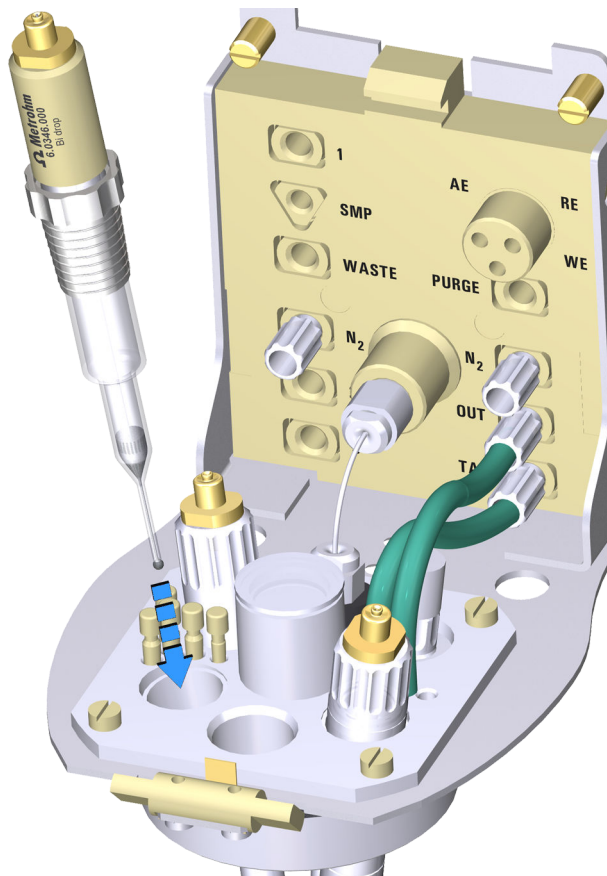

Figure 2: Position of bismuth drop electrode
5. Close the electrode opening (7) with the cover (6.2753.210).
9. Place the bismuth drop electrode in position 9 (see figure 2, page 2).
11. Close the spare openings for tubing connections (10) with suitable stoppers from the stopper set (6.2709.110).
12. After attaching the measuring head cover, close the pipetting opening (8) with the stopper (6.2709.100).